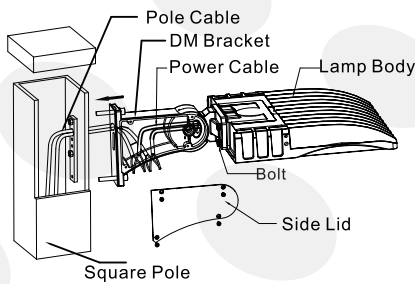

Figure 3-1
- Open the side lid of Straight Arm bracket, let the power cable go through the Straight Arm bracket. Fix the Straight Arm bracket to the end of lamp body with bolt. Let the pole cable go through the Straight Arm bracket. (Figure 3-1)